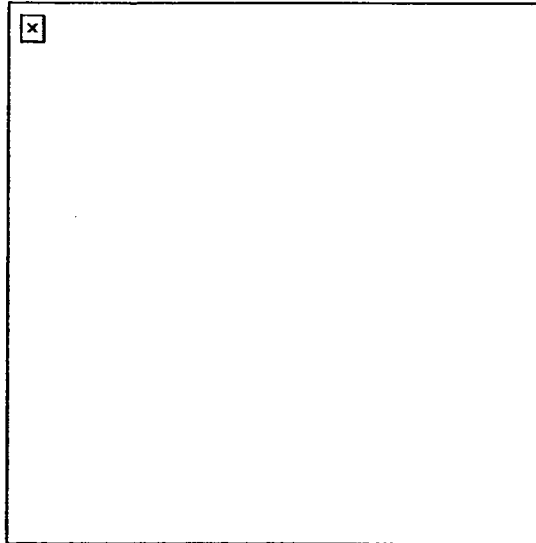

Figure 15. Attention.
- (4) Signals to control vehicle drivers and crews. (Figures 15 through 36). These are the arm-and-hand and light signals used to guide and direct vehicles. Flashlights are used at night. Blue filters are used with flashlights to help prevent detection by light- and heat-detecting devices. Red filters are used when preserving the driver's night vision is important. Chemical lights can also be used and have less effect on the driver's night vision.